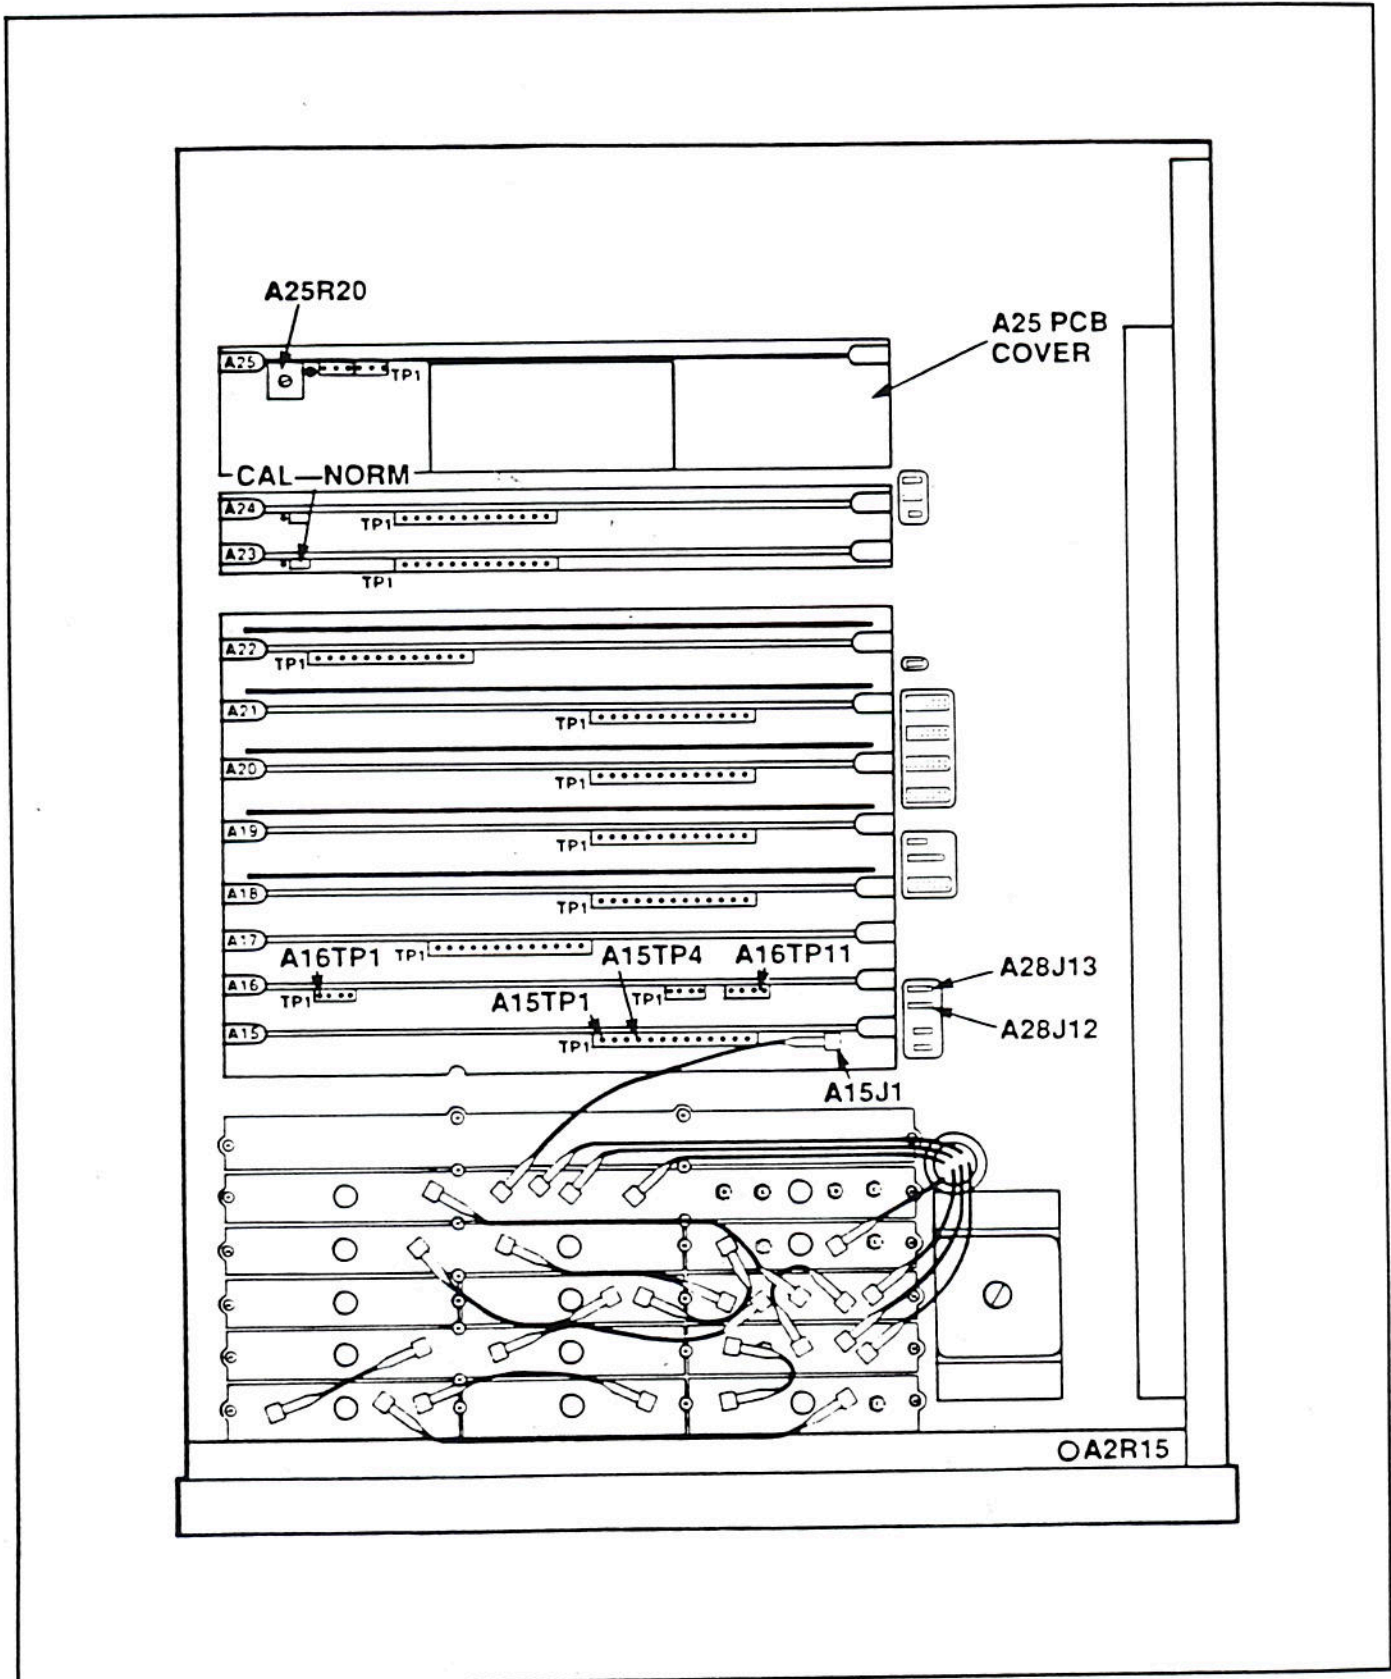

Figure 3-1. Top View of 67XXA showing RF Casting Connectors, Motherboard Connectors, and PCB Test Points
1. For models that have only one leveling circuit (see Test Record), remove the cable from A28J12 and temporarily connect it to A28J13 (see Figure 3-1).
3. Disconnect the cable from A15J1 (see Figure 3-1)
1. Place the A23 PCB CAL/NORM jumper (see Figure 3-1) to the CAL position.
3. Place the A23 PCB CAL/NORM jumper to the CAL position (see Figure 3-1).